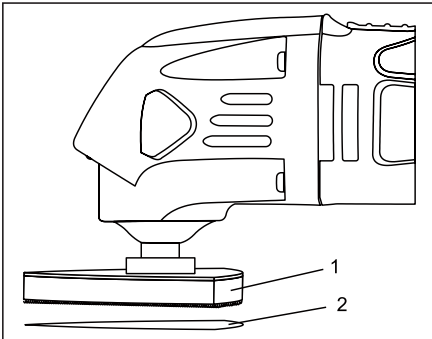

Fig. 3
1. Install the hook & loop sanding pad (1) onto the tool (Fig. 3).
2. Firmly press the sandpaper (2) onto the hook & loop pad.